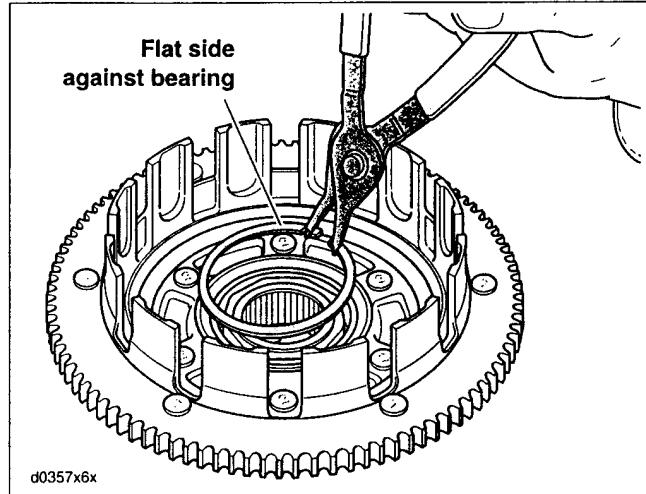

Figure 6-21. Clutch Shell Retaining Ring
4. See Figure 6-21. Turn clutch shell over so that the sprocket side is down. Remove retaining ring from groove in clutch shell bore.
2. See Figure 6-21. Install retaining ring in groove of clutch shell bore. Place flat side of ring against bearing.